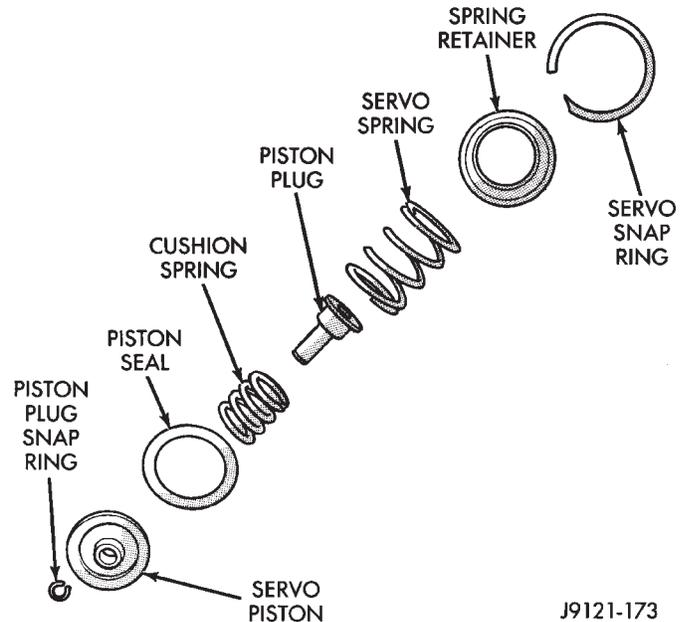
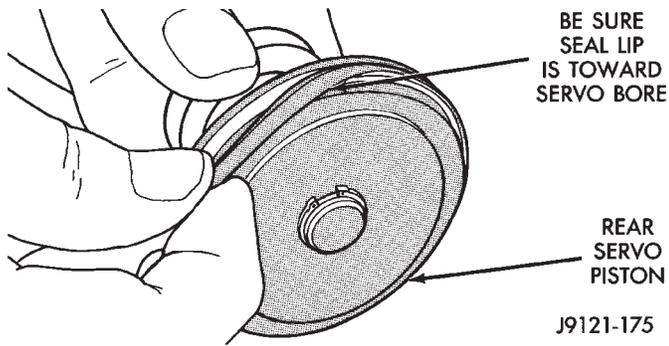

Fig. 99 Rear Servo Components
Fig. 100 Installing Rear Servo Piston Seal
Inspect the servo components (Fig. 99). Replace the servo and cushion springs if collapsed, distorted or broken. Replace the plug or piston if cracked, bent,
(1) Assemble piston plug, cushion spring and piston (Fig. 99).
(2) Compress cushion spring in vise and install piston plug snap ring.
(3) Install new seal on piston. Be sure seal lip is toward servo bore (Fig. 100).
(4) Lubricate piston seal with petroleum jelly. Lubricate other servo parts with transmission fluid.